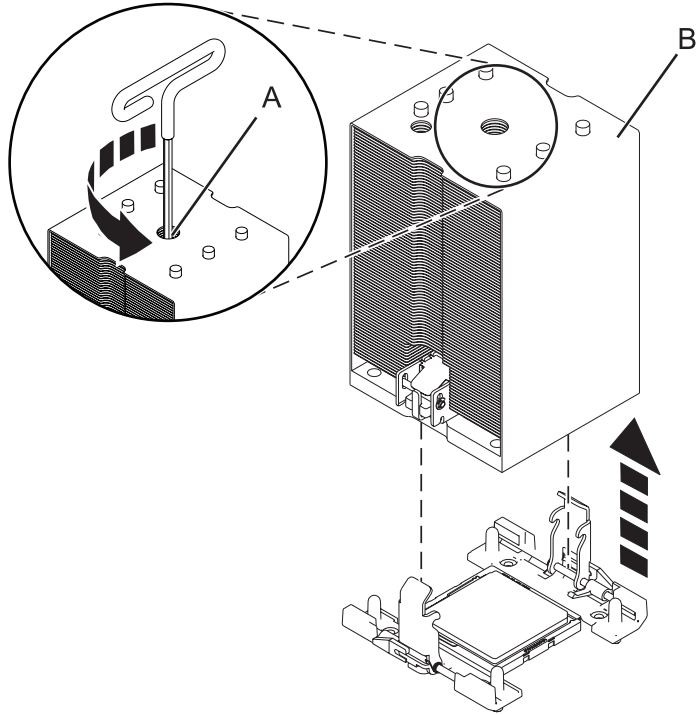

Figure 2. Removing the heat sink
- a. Loosen the heat sink actuation screw by turning the supplied hex driver counterclockwise **(A)**. Loosen the screw until the load frame arms are disengaged from the heat sink. See Figure 2 on page 5.